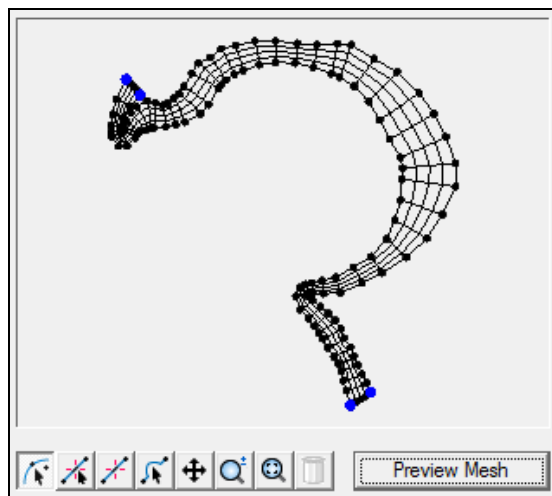

Figure 8 Mesh preview
3. Click the **Preview Mesh** button to see a preview of how the elements in the patch will be created (Figure 8).